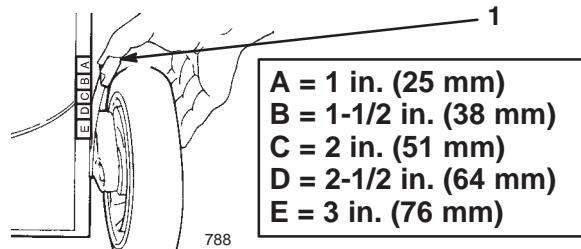

Figure 8
- To change the cutting height, pull the cutting height lever toward the wheel and move it to the desired position (Fig. 8).